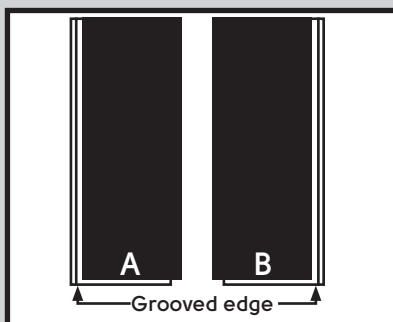

Fig 3.
3. Open several cartons of the material. The planks will be marked "A" and "B" on the back (diagram below). Separate the different planks in stacks keeping the edges the same direction. While stacking mix up the planks to get good color separation for installation (Fig 3.).